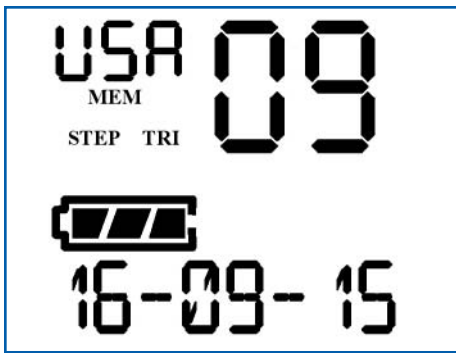

Fig. 14a: Triple Watch Display
The **TRI** icon will be displayed. Every two seconds, the radio will quickly monitor Channels 16 and 9 before returning to your selected channel. The Radio Status Display will show the three channels being monitored. (Fig. 14a)
- If there is traffic on Channel 9, the radio will monitor Channel 9 until the signal stops while checking Channel 16 every two seconds. (Fig. 14a)